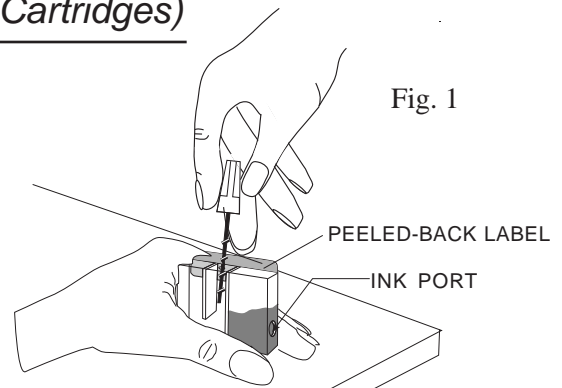

Fig. 1
3. Locate the top surface of cartridge (the one with the arrow printed on label). Carefully peel back the top label to expose the plastic surface under the label. Place the cartridge on work surface and hold as shown in Fig. 1.
3. Hold cartridge on work surface with ink port facing up. (shown in Fig. 1.)
4. Locate center of smaller liquid chamber (see illustration in fig. 1) and using drill provided, drill a vent hole in that spot. Remove drill by continuing to twist in a clockwise direction and pulling upward. This will help in keeping plastic debris from falling into the cartridge. Brush debris away from top surface.